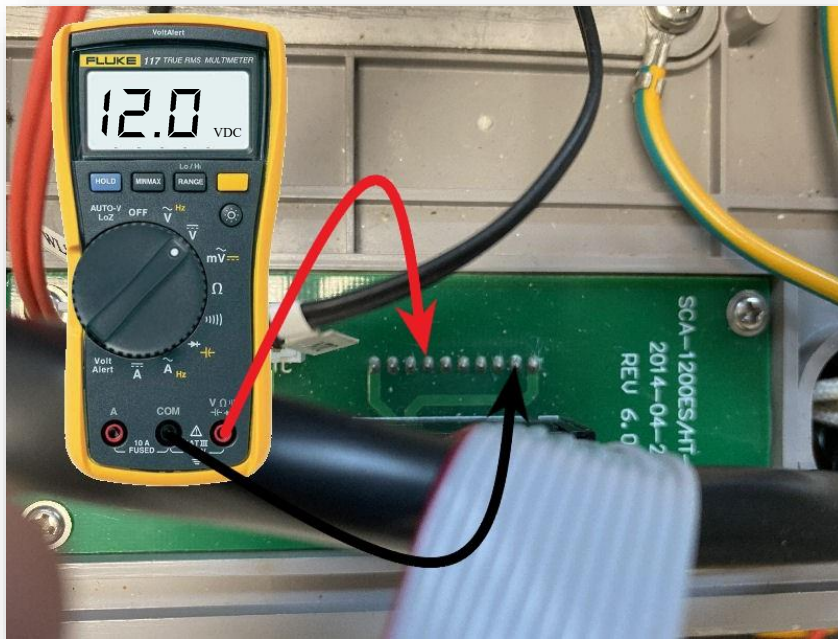

Figure 38 – Connector Board Heater Control Signal J2
- b. Set the Multimeter to DC voltage . Measure the voltage across pin 2 (GND) and pin 7 (Heating Tube control signal input) on the Connector Board J2 solder joints (**See Figure 38**). When the Start Button is pressed, the control signal transitions from a low (~0V DC) to a high (~12V DC). This energizes the Heater Relay.